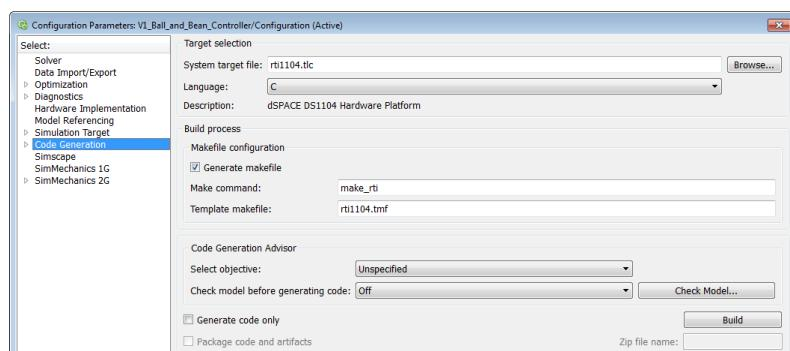
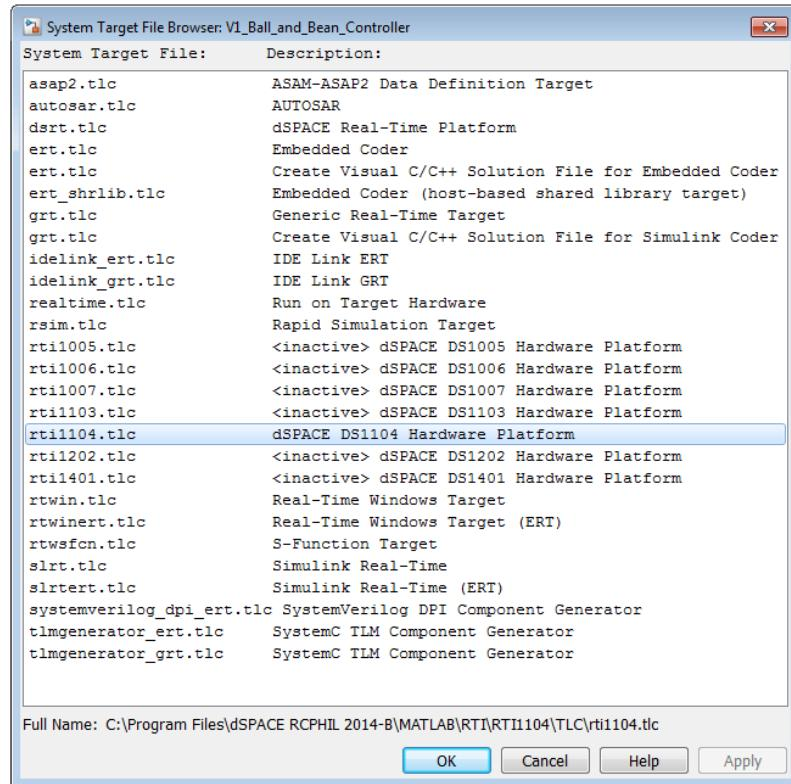

Figure 23: Selection of the board for compilation
Figure 24: Selection of the .tlc file related to the board
5. Finally, the model must be compiled in the dSPACE board. The DS1104 board must be selected in the ‘Model Configuration Parameters’ window, selecting the ‘Code Generation’ option, as seen in the figure 23. Press the button ‘Browse. . .’ at the right of ‘System target file’ to open a window that will show a list of .tlc files, and select the one associated with the DS1104 board, as shown in figure 24.